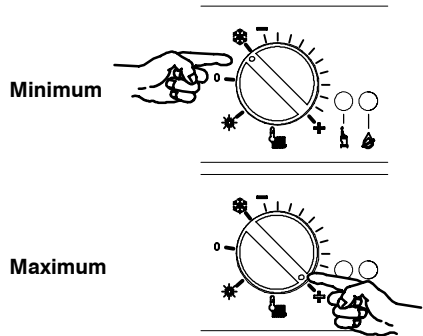

Fig. 2.6
The output temperature of c.h. water is adjustable from a minimum of about 38°C to a maximum of about 85°C (Fig. 2.6), by turning the function selector (8).